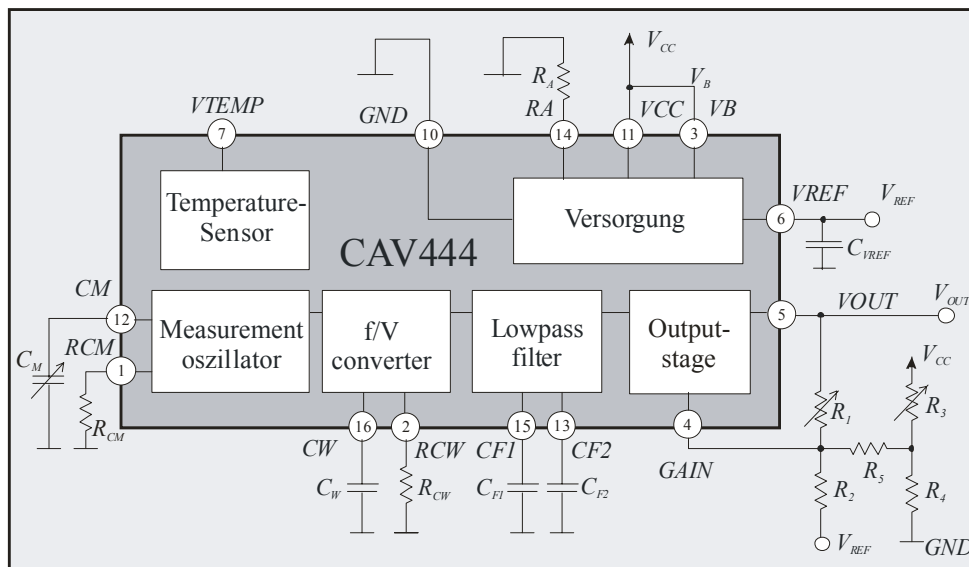

Figure 5: Full circuit with adjustable full-scale output signal and adjustable offset signal
When setting the output signal the adjustability of the offset must be taken into account with the transfer function (5). With regard to *Figure 5*, the transfer function is calculated as:
Example applications are generated by dimensioning the circuit in *Figure 5* with the help of the calibration program *Kali_CAV444.xls* [1]